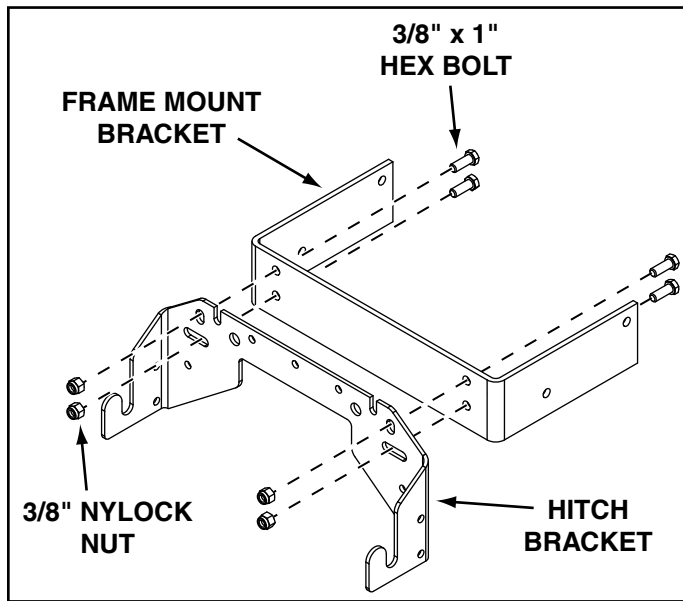

FIGURE 9
14. Assemble the hitch bracket to the frame mount bracket using four 3/8" x 1" hex bolts and 3/8" nylock nuts as shown in figure 9.